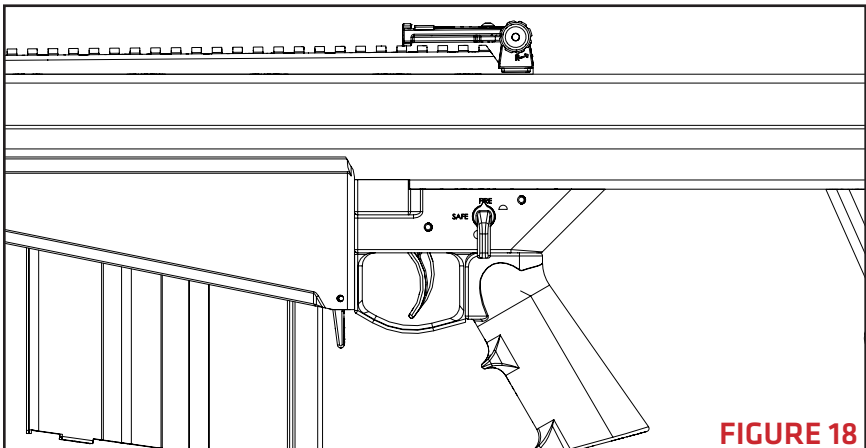

FIGURE 18
6. Rotate the safety lever to the “FIRE” position (**FIGURE 18**).